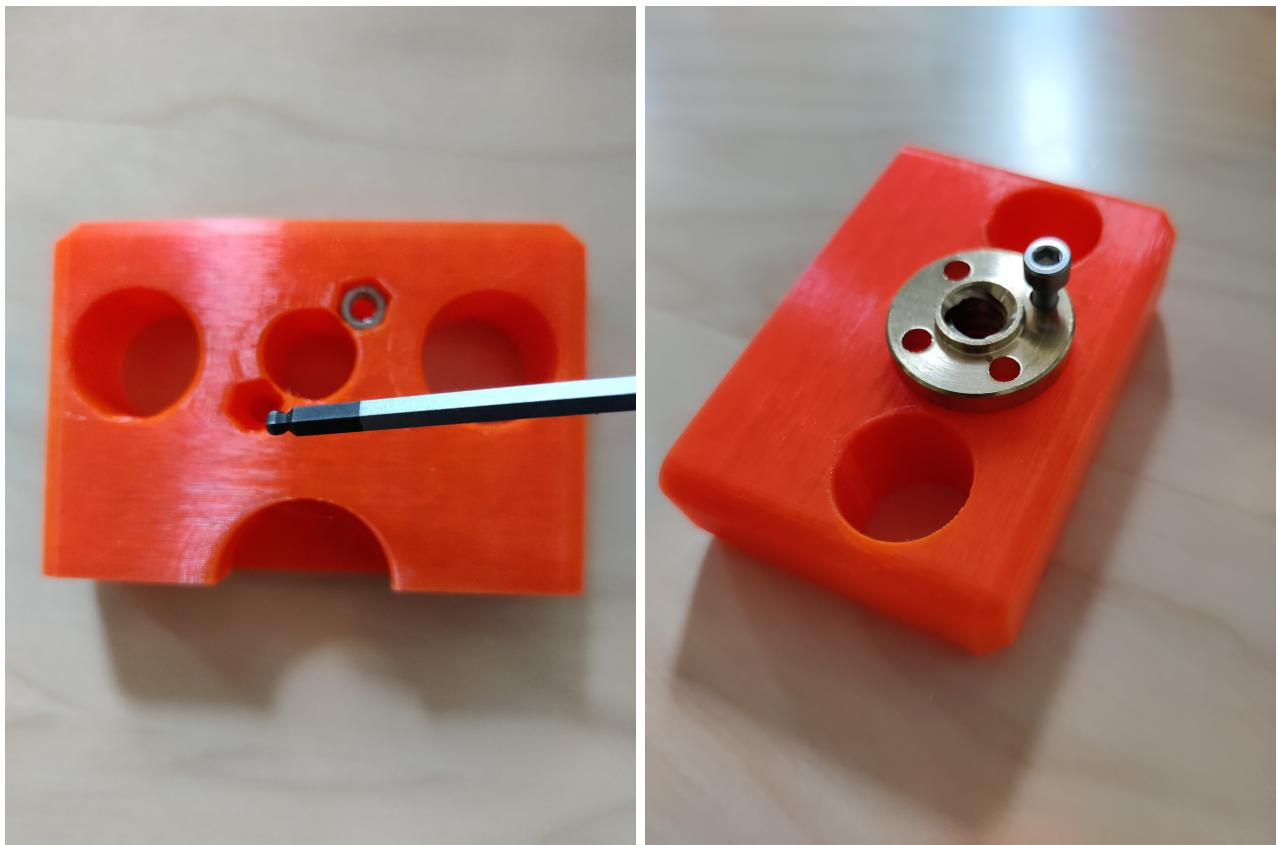

Fig. 4.2
1) Insert two 3 mm nuts into the pump sledge and install the lead screw nut with the bolt holes on top of the sledge, using 2 M20 screws (Figure 4.2)